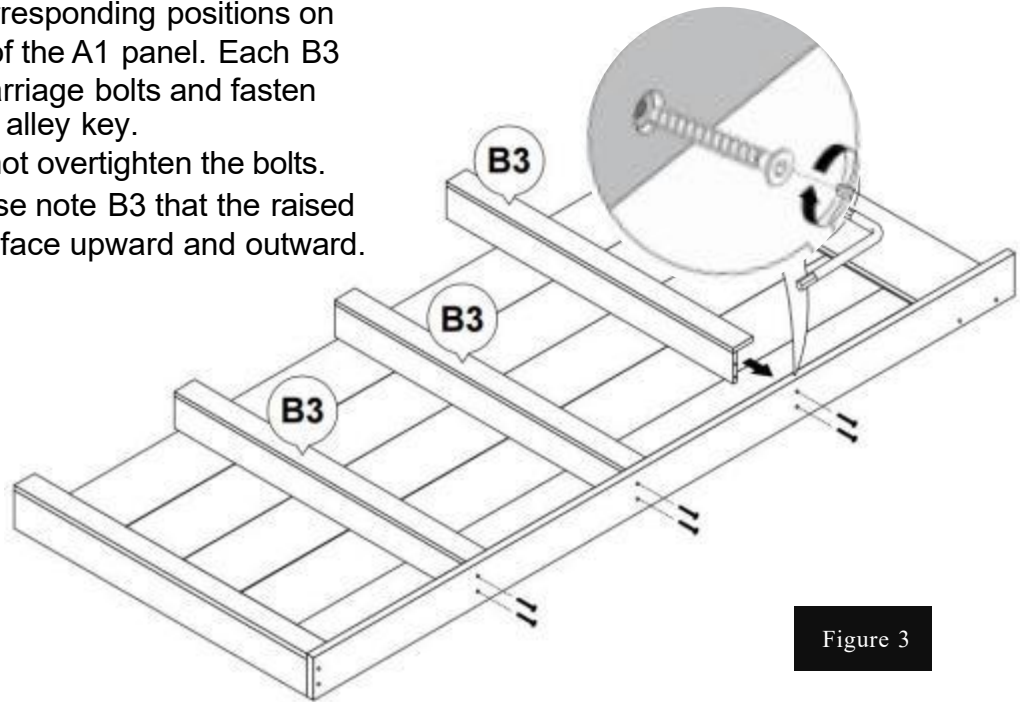

Figure 3
- According to Figure 3, install 3pcs of B3 at the corresponding positions on the left side of the A1 panel. Each B3 requires 2 carriage bolts and fasten them with an alley key.